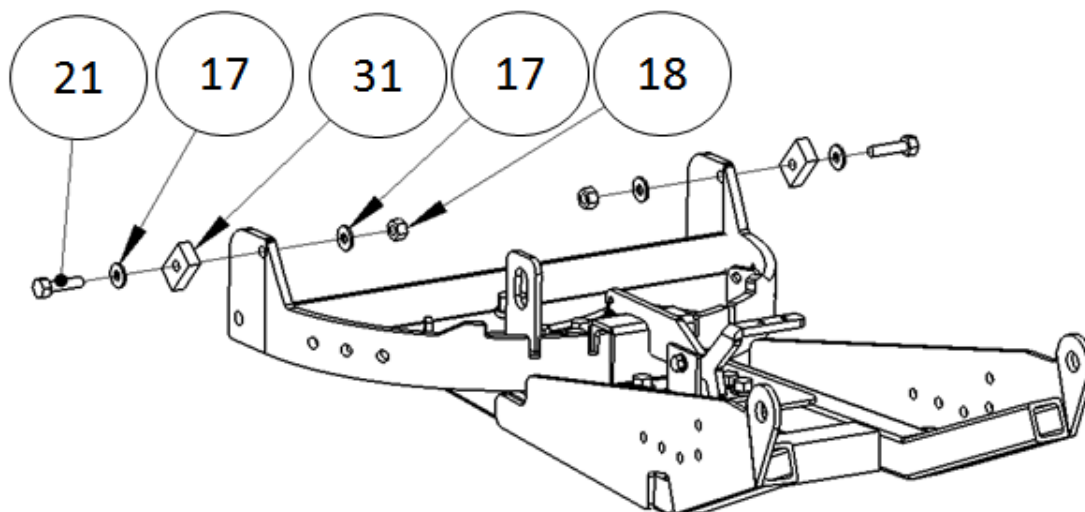

Figure 13
- 13) Install the Blade Stop Blocks (#31) using the 3/8" Bolts (#21), Washers (#17), and Nylock Nuts (#18) included in your kit (**Figure 13**). The Stop Blocks are used to adjust the retracted position of the Plow Blade. The four sides of the blocks are machined to be different thicknesses from the center bolt hole. This allows the retracted position of the blade to be tilted forward or back a couple of degrees. The majority of users setup their stop blocks with the shortest side facing the blade (**See Figure 13A**)